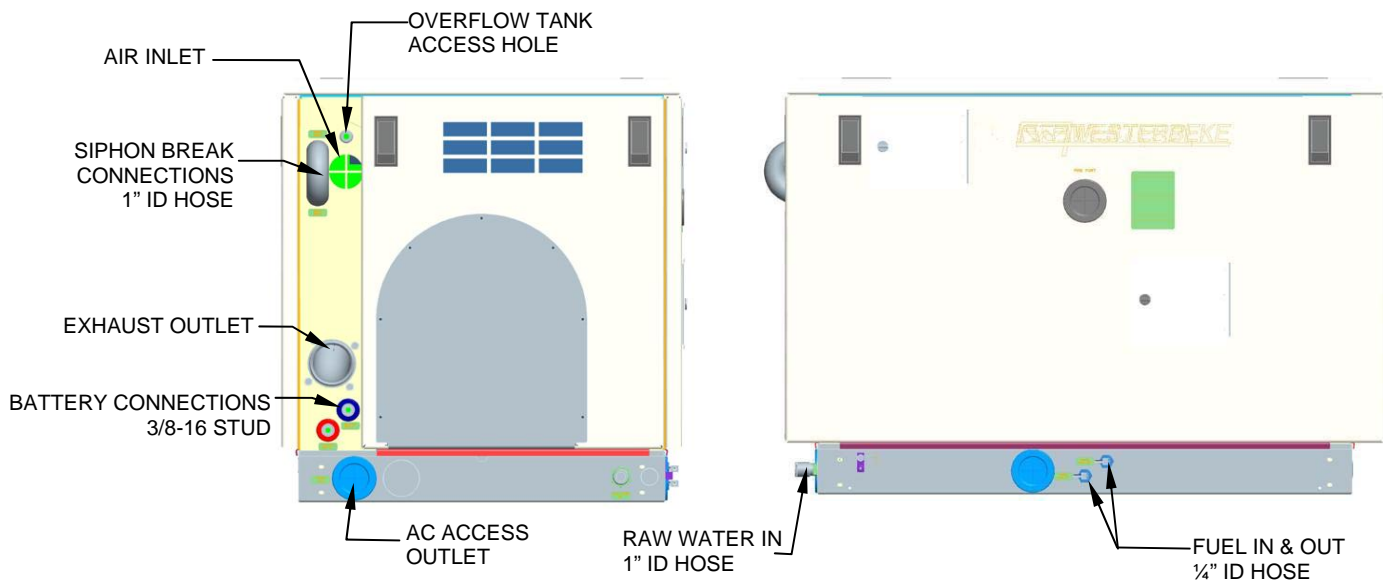

Fig. 5
13. Install and connect the provided hoses and cables between the engine/generator and appropriate bulkhead fittings located on the base and rear frame sections. Use the following checklist to ensure all internal connections are made. See Fig. 5